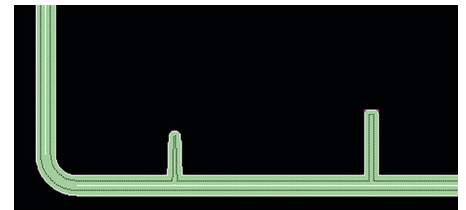

Figure 56: Result – solid fill for thin walls.
4.3.9. Generate toolpaths (Figure 56).